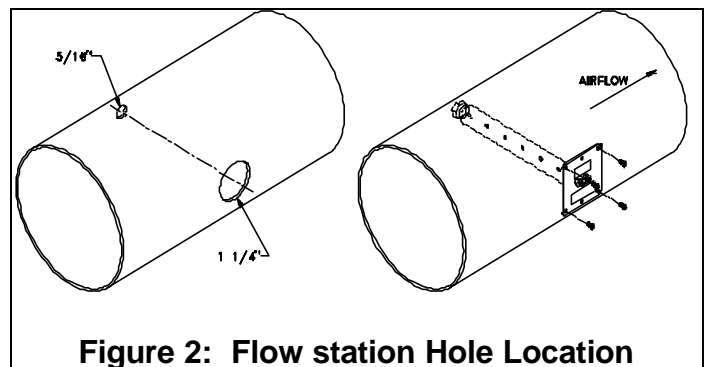

Figure 2: Flow station Hole Location
- 2) Drill a 1 1/4" hole in the side of the duct work. If probe is longer than 18 inches drill a 5/16" hole directly across from the 1 1/4" hole (Figure 2).
- 5) Screw the flow station into place with sheet metal screws (screws not provided by TSI). On 18 inch and longer flow stations tighten the 5/16" nut. The finished installation should look like Figure 2.